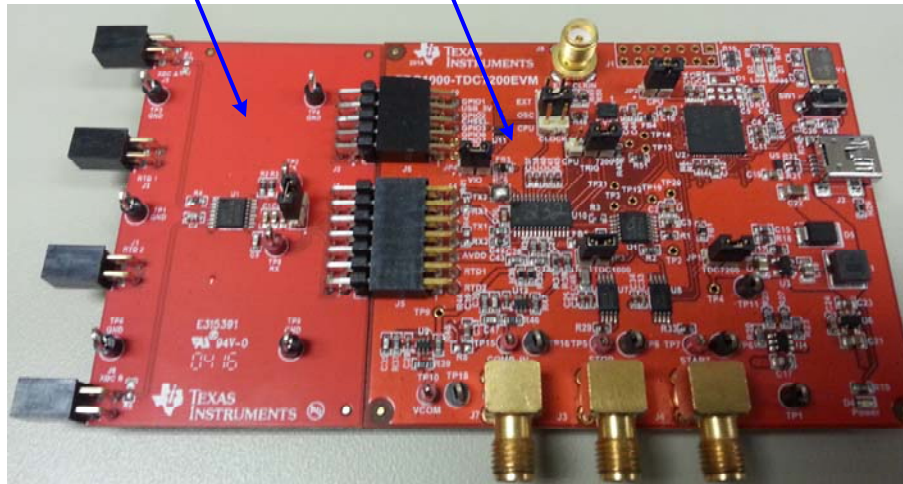
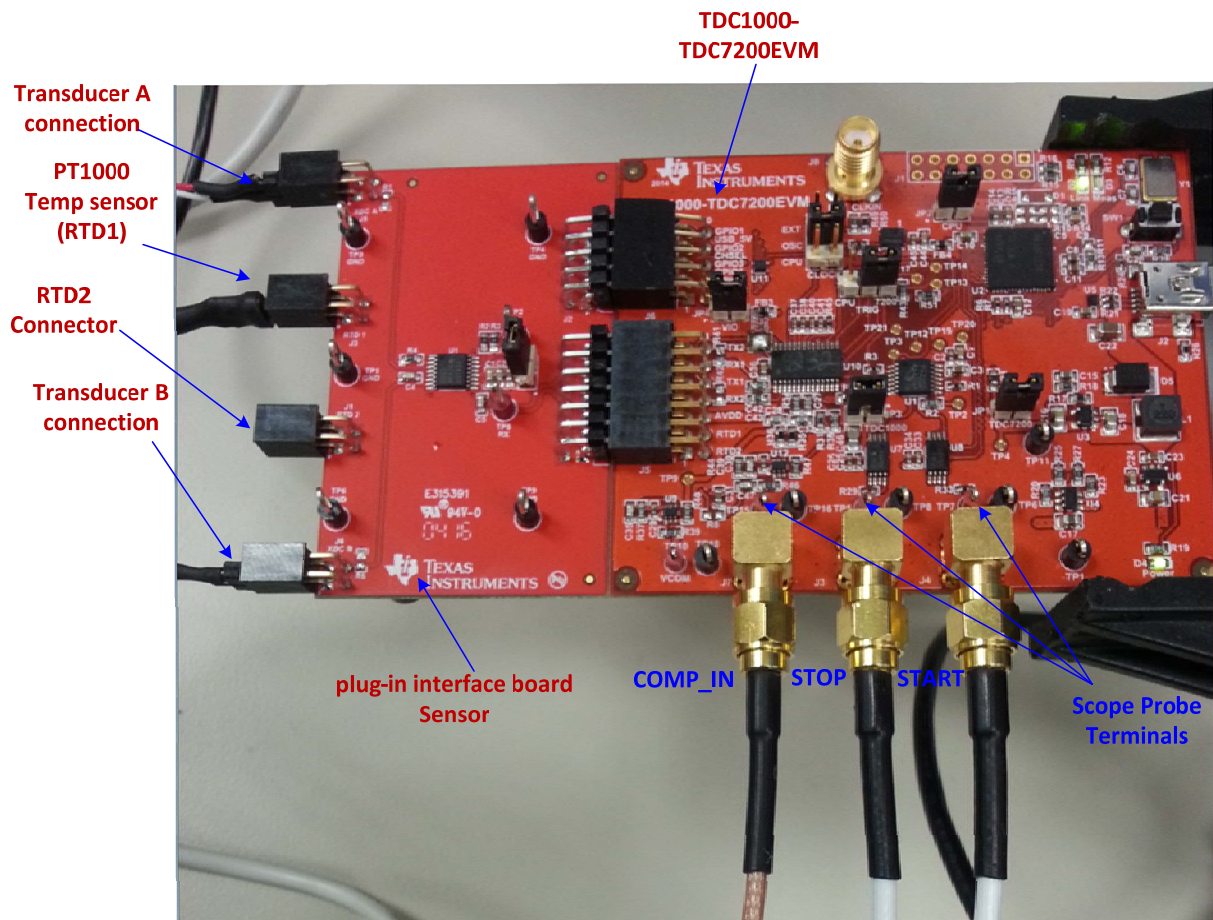

Figure 2: The setup pictures, TDC1000-TDC7200EVM and the plug-in sensor interface board close up
Figure 5: EVM connections to the sensor
In Figure 2 the picture of the actual setup and a close up of the TDC1000-TDC7200 and the companion sensor interfacing boards are shown.
3. Connect the sensor to the sensor interface board and connect the transducer wires and the RTD wires of the sensor to the sensor interfacing boards as or as shown in Figure 5 below. Place the pipe on a flat surface in a standup position as shown if Figure 2. This would move up any bubbles trapped between the two transducers to the top of the pipe and away from the signal path. Bubbles trapped in the signal path causes severe attenuation of signal.
4. You may want to view the signal waveforms (Start, Stop, and Ultrasound received waveform at the input of TDC1000 internal comparators) on a scope to make sure proper operation of the sensor. You can either connect the scope probes to the provided terminals (test points) on the EVM or solder SMA connector on the EVM board and use the cables shown in Figure 5.